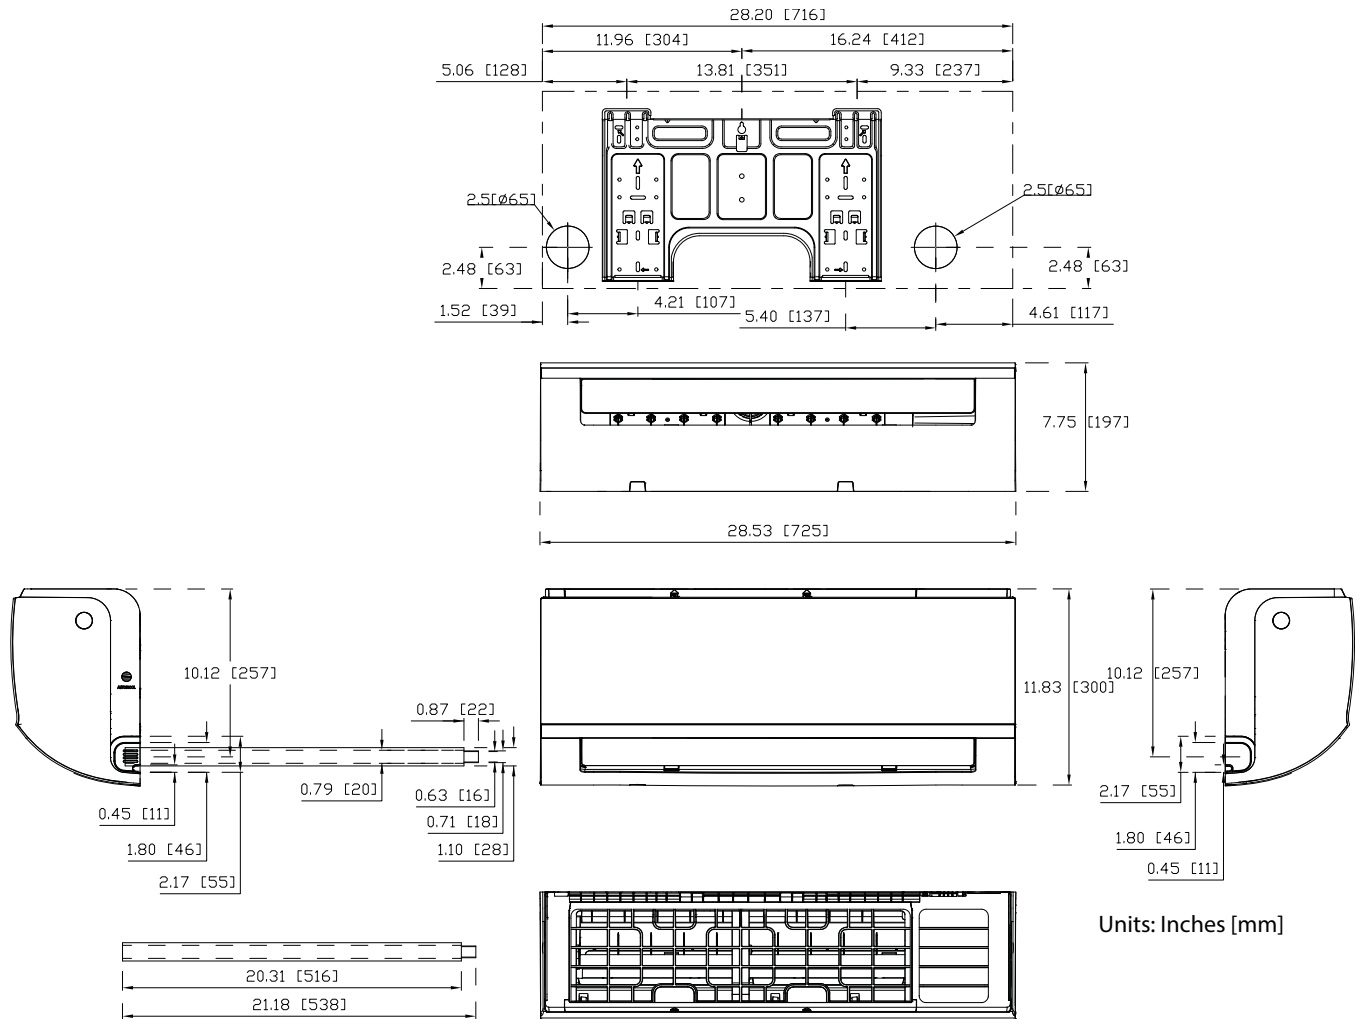
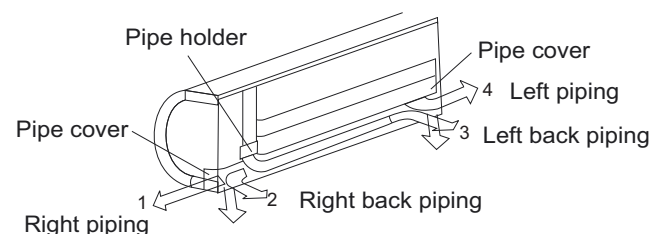

Fig. 3 — Size 9K
Fig. 11 — Piping Locations
Different model sizes have different mounting plates. Ensure there's enough room to mount the indoor unit (refer to Fig. 3–6).
The refrigerant lines may be routed in any of the four directions (see Fig. 11).
1. Determine the pipe hole position using the mounting plate as a template. Drill pipe hole diameter per values given in Figures 3–6. The outside pipe hole is 1/2-in. (13 mm) min. lower than inside pipe hole, so it slants slightly downward (see Fig. 11).